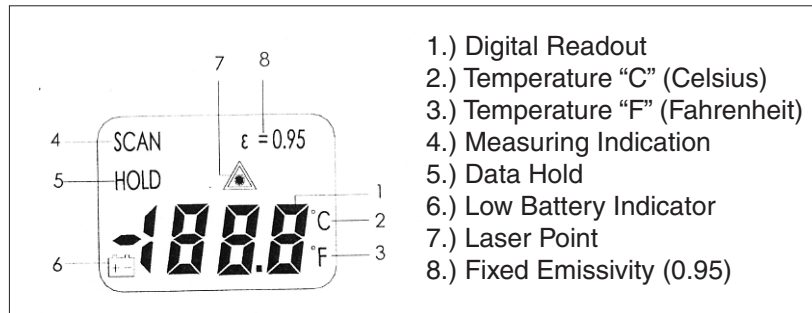

Figure 3
4. The Thermometer will automatically hold the last temperature reading for seven seconds after pressing the Measuring Key (7) is pressed and released. No extra keys need to be pressed to freeze the display reading on the LCD. **See Figure 3.**